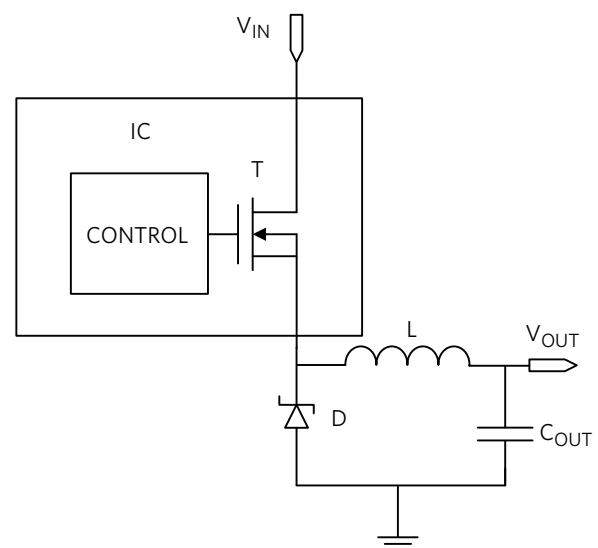

Figure 6. Nonsynchronous Buck Converter
For a 24V input and 5V output, the buck converter works with a duty cycle of about 20%. This means that the internal high-side transistor (*T* in Figure 6) conducts only 20% of the time. The external rectifier diode (D) conducts the remaining 80% of the time, which accounts for most of the power dissipation.